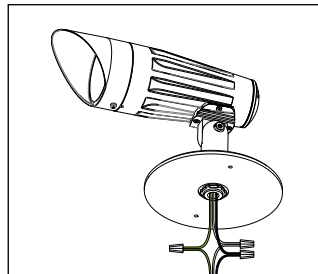

Figure 2
3. Make connections from primary branch circuit wire to fixture leads using silicone filled wire connectors (supplied by others). Connect ground to ground wire on fixture (Fig. 2 & 3).